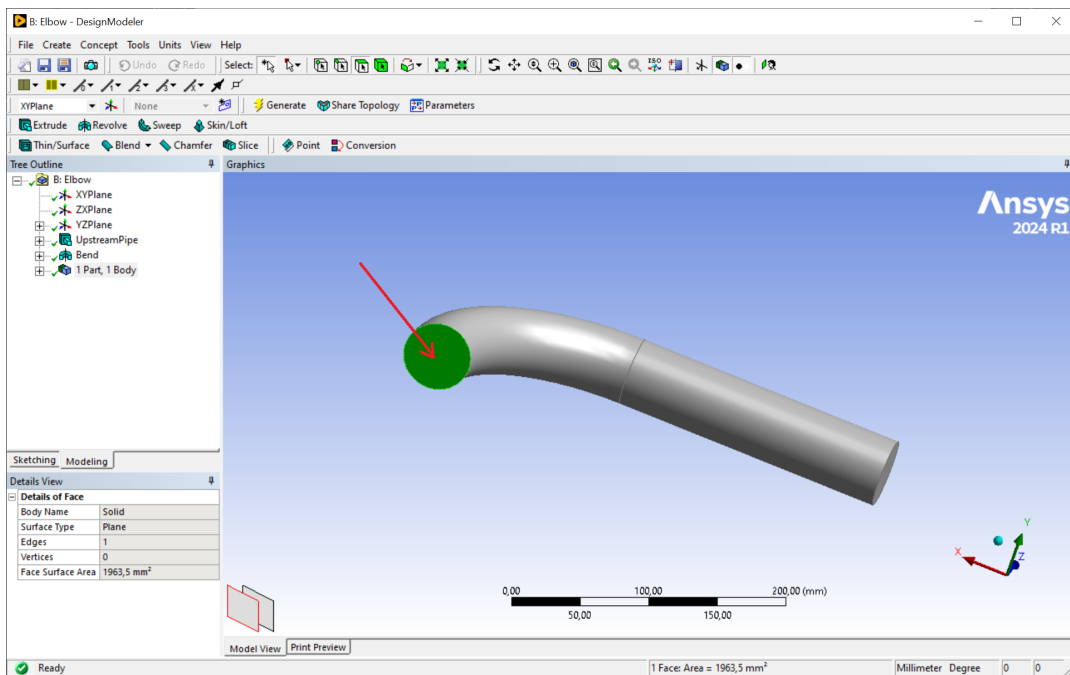

Figure 18: Selection of the face downstream of the elbow.
- Rotate the pipe so as to bring the surface downstream of the elbow to the foreground, and select it, as depicted in figure 18.